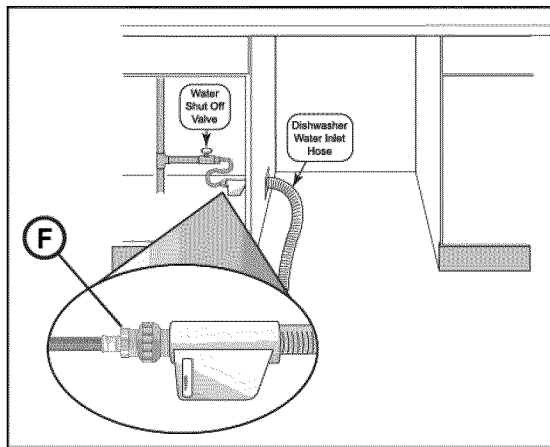

Figure 8
Install an easily accessible shut-off valve (not supplied) in the hot water supply line, as shown in **Figure 8**. All solder connections must be made before the water line is connected to the dishwasher.
*NOTE: The end of the dishwasher water inlet hose is heavy and will need to be supported. It is best to lay the end on the cabinet floor as shown in Figure 8.*